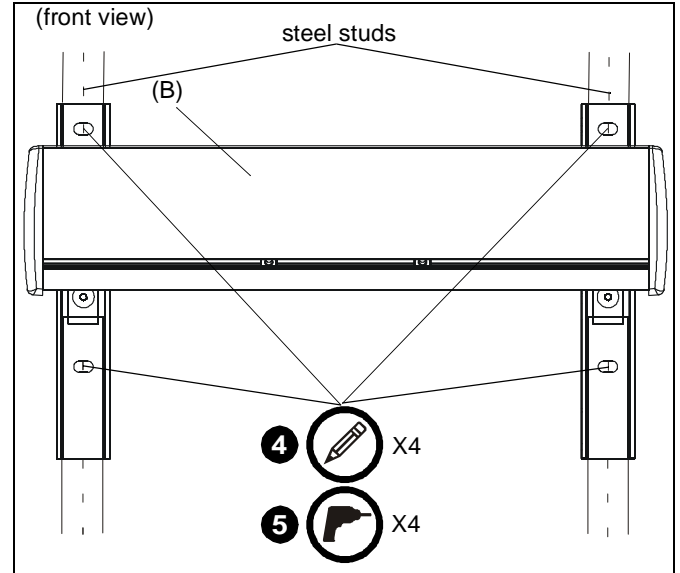

Figure 5
3. Line up four holes on mounting bracket with center of studs at desired mounting location. (See Figure 5)
4. Using mounting bracket as a template, mark four holes at the inner four holes in bracket. (See Figure 5)
5. Drill four 1/2" holes at marked locations in wall. (See Figure 5)